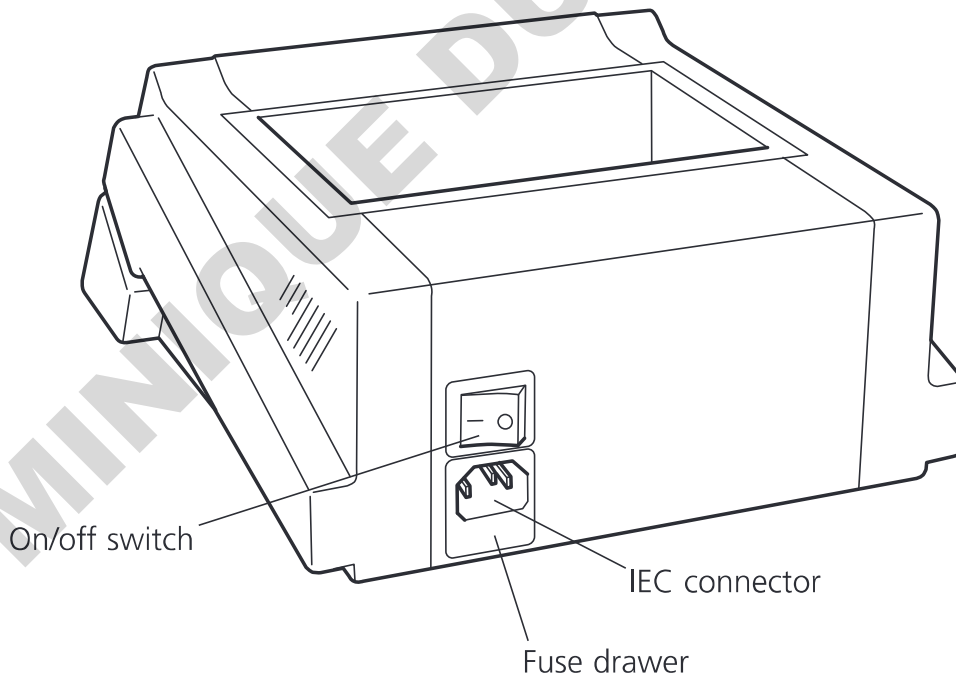

Figure 2: Rear view
1. Switch on using the switch located at the rear of the instrument – see figure 2.